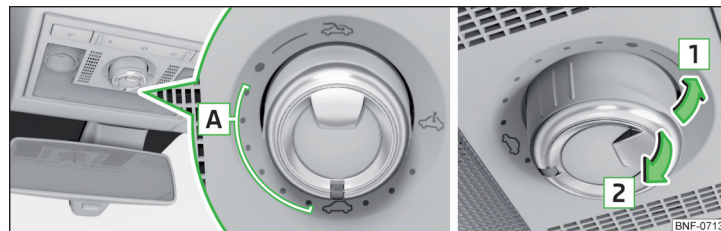

Fig. 38 Operation of the sliding/tilting roof
- Set the switch to the position  » Fig. 38 on page 45 .